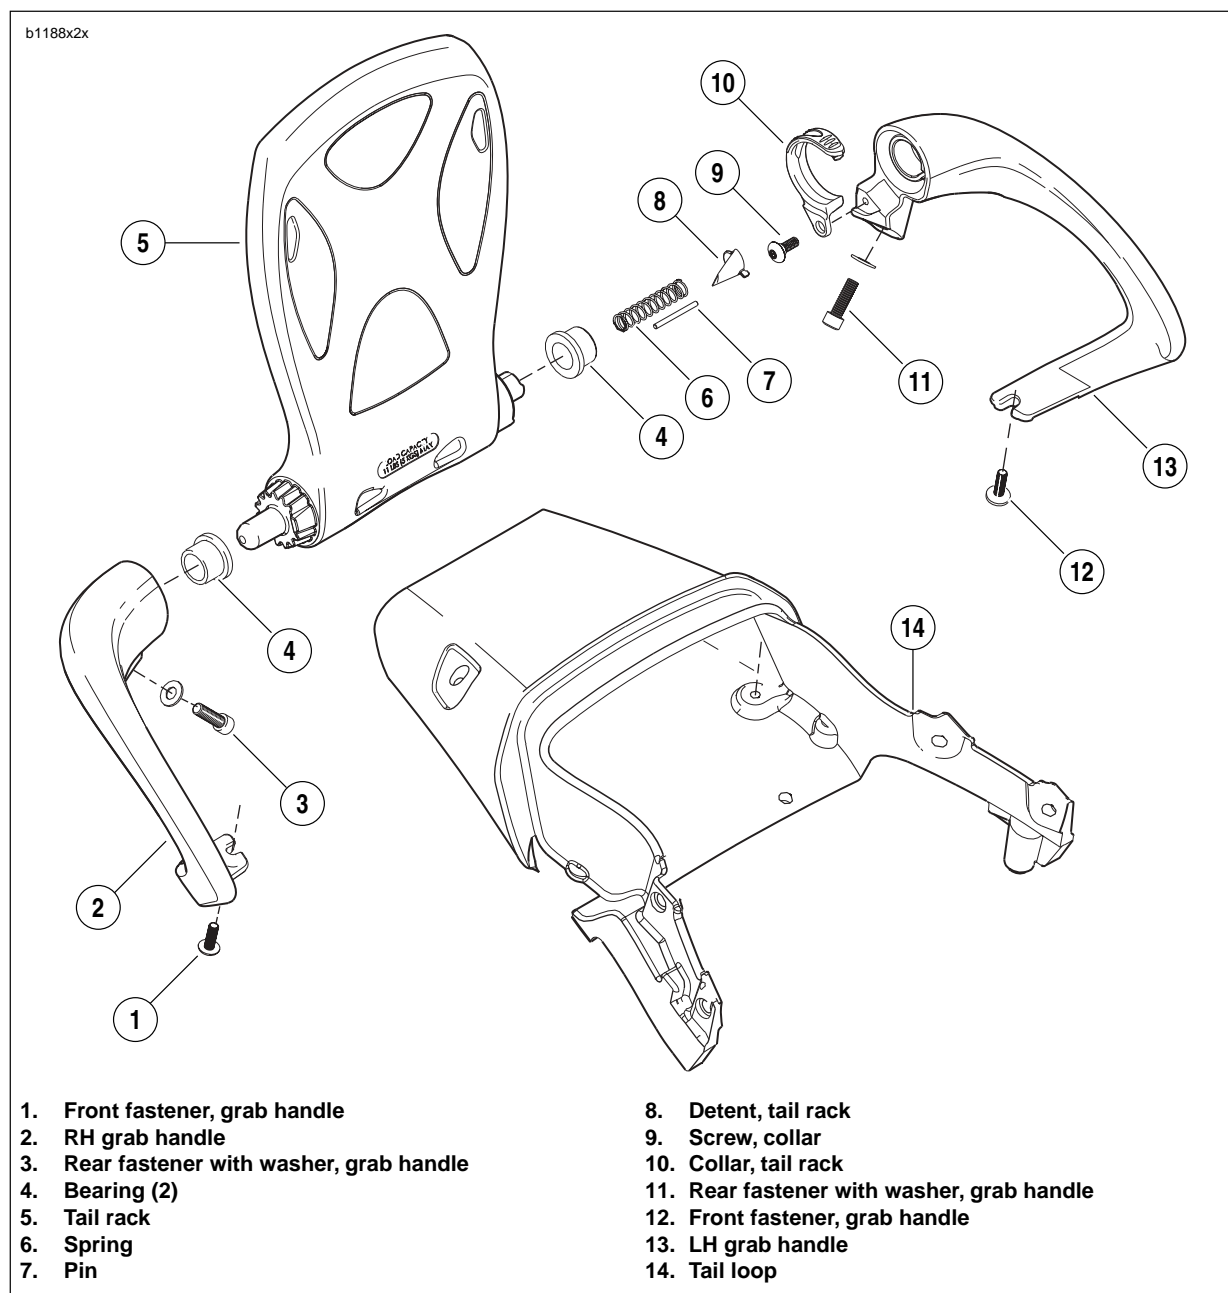

Figure 2-141. Triple Tail, Passenger Backrest and Luggage Rack
2. See Figure 2-141. To access fasteners (3, 11), remove the plastic wire cover under the license plate light. Remove the two screws and the two nuts to remove the plastic cover.
3. Remove the right hand (RH) rear fastener (3).
4. Loosen but do not remove the front (RH) fastener (1).
5. Hold the triple tail rack (5) in place and remove the RH grab handle (2).
1. See Figure 2-141. Remove the fastener (9) and the plastic collar (10) from the LH grab handle(13).
2. To remove the bearings (4) from the right hand grab handle, insert a 3/4 in. blind bearing collet and extract.
3. To remove the bearing (4) from the LH grab handle, insert a 3/4 in. blind bearing collet and extract.
4. Remove the pin (7) and detent (8).
4. Install the plastic collar (10) and tighten the fastener to 36-48 **in-lbs** (4.0-5.4 Nm).
6. See Figure 2-141. Apply LOCTITE 271 (red) to LH and RH grab handle fasteners.